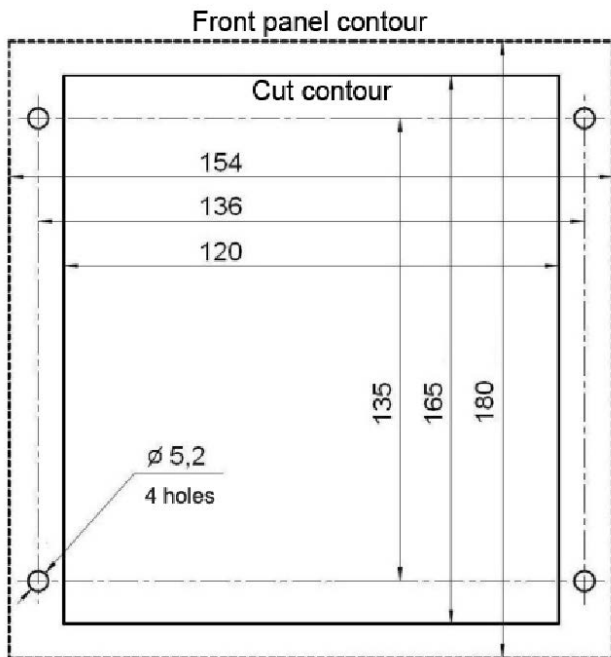

Figure 1. Markup for installation of the outdoor panel
2. Prepare a niche for installing the outdoor panel (see the markup in Figure 1).